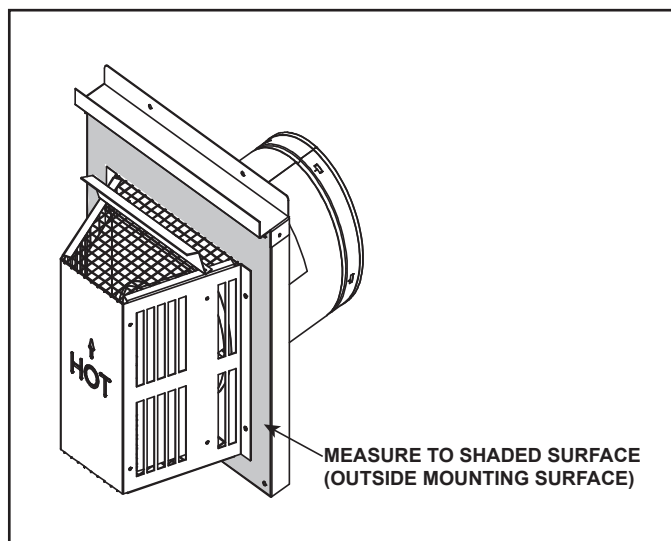

Figure 4.8 Measure to Outside Mounting Surface
- Horizontal terminations are measured to the outside mounting surface (flange of termination cap). See Figure 4.8.